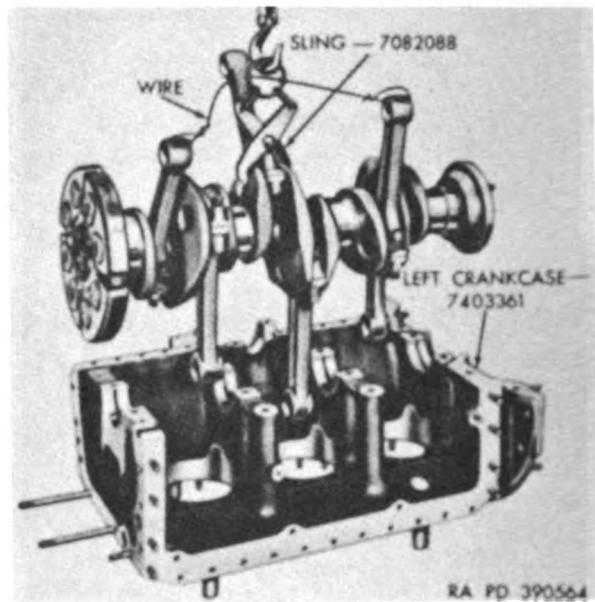

Figure 60. Removing or installing crankshaft and connecting rods.
- (8) Wire connecting rods together in a vertical position and attach crankcase lifting sling 7082088 (fig. 60).
- (9) Lift crankshaft and connecting rods from crankcase and place on wooden "V" blocks fastened to work bench so crankshaft rests on the two end main bearing journals.
- (10) Remove oil seal, crankshaft main bearing halves, and main thrust bearing halves from crankcase halves. Check backs of bearing halves for location markings. If no markings are present, mark bearing location on bearing with grease pencil for possible reinstallation.